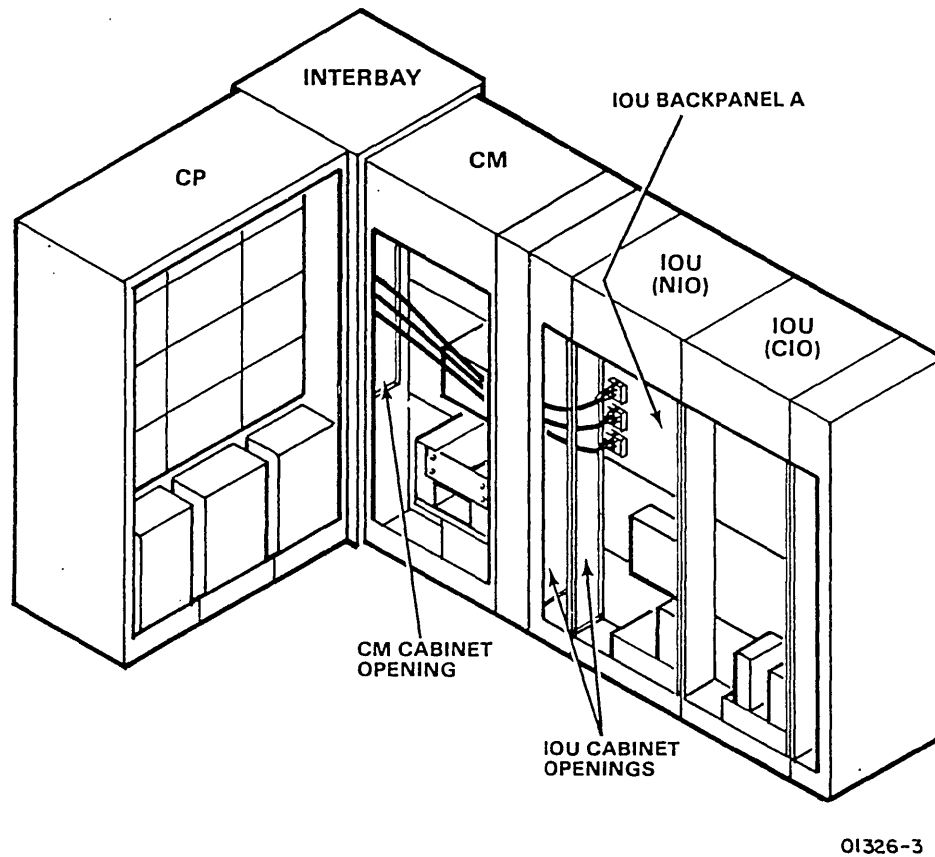

Figure 4-5. CP-0 Cables to IOU Backpanel A Cable Connections
- ___ 4. Route cables through CM and IOU cabinet openings to IOU (NIO section) backpanel A. Route only enough of cables to reach backpanel (figure 4-5).